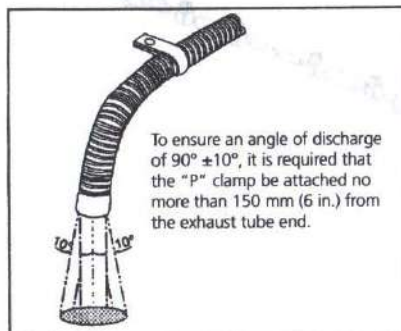

Fig. 5-5: Exhaust Tube Outlet Position
3. Bend outlet end of tube in a downward direction (see figure 5-5). Do not point outlet in direction of travel. Do not direct towards heat sensitive components and materials such as brake lines, electrical wiring, hoses, tires, etc. Locate exhaust tube outlet where the possibility of clogging by snow, mud or debris can be avoided.